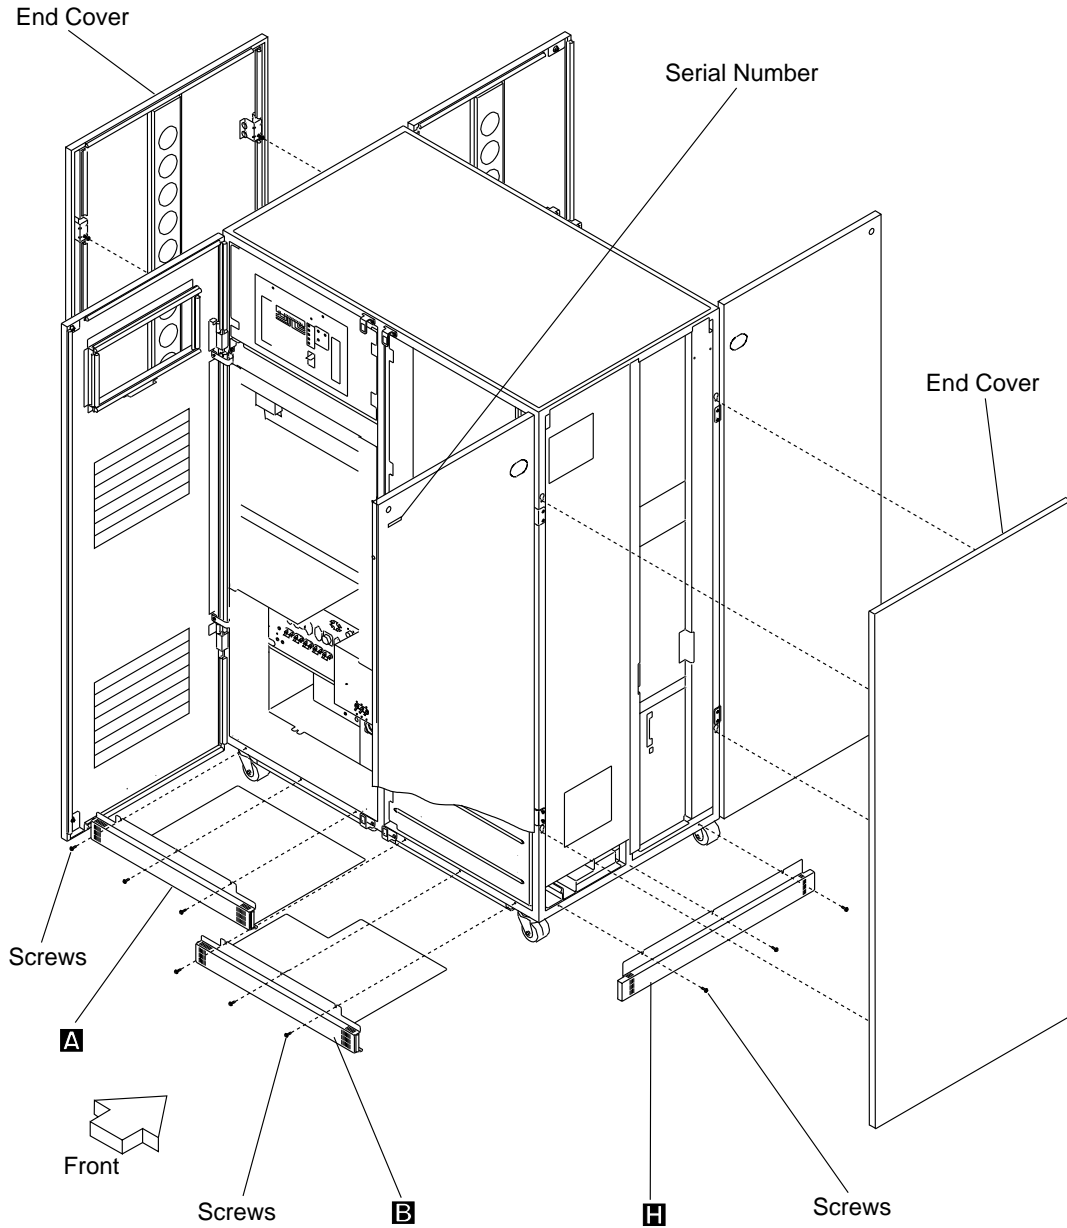
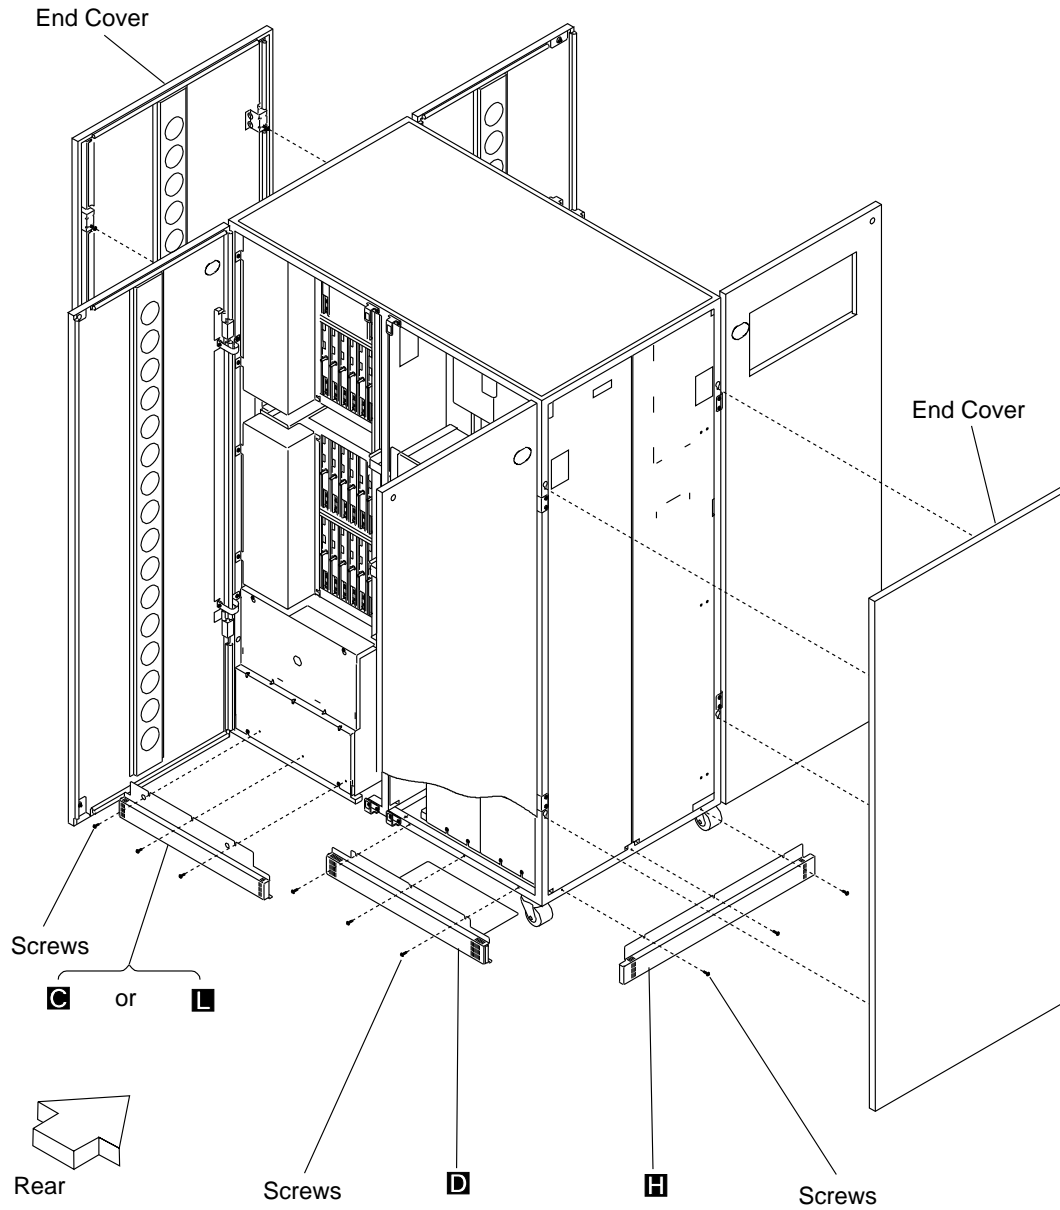

Figure 6-1. Ground Brackets on the 3745 (Front View)
Figure 6-2. Ground Brackets on the 3745 (Rear View)
- a. \_\_\_\_ Refer to Figure 6-1 on page 6-3 and Figure 6-2 on page 6-4, and read the text at the top of the pages.
- a. \_\_\_\_ Refer to Figure 6-1 on page 6-3 and Figure 6-2 on page 6-4, and fasten the right and left end brackets **H** on the 3745.